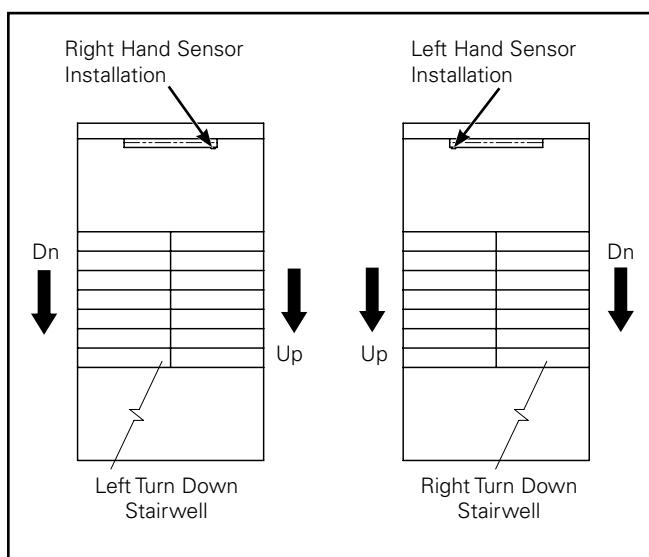

Figure 4.
- From the diagram below, determine your stairwell orientation and the corresponding sensor location (Figure 4). The sensor head must be positioned to the side that coincides with the steps leading up from the landing the fixture is to be mounted.